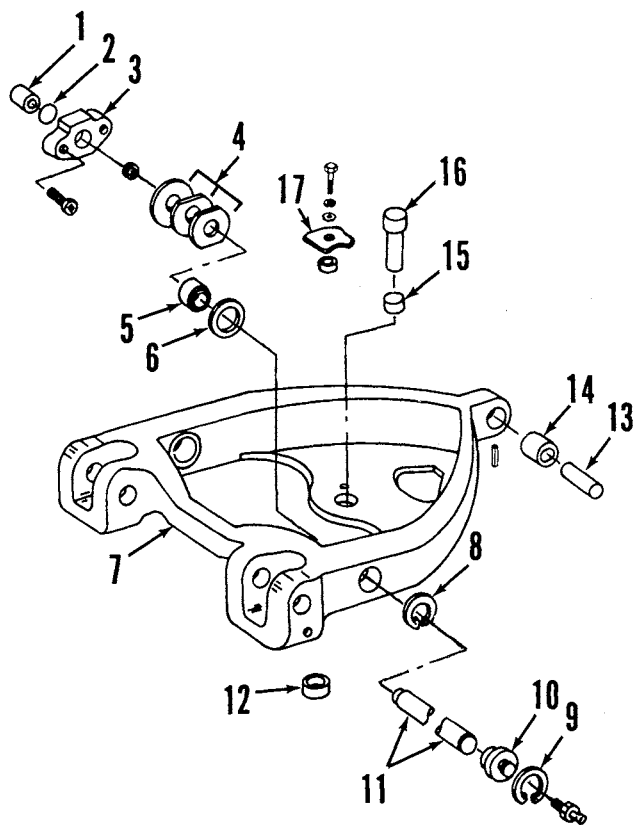

Fig. 261—Exploded view of draft link and drawbar support used on Models 4050, 4250 and 4450.
The load control shaft (11) may be removed without removing load control arm. First drain transmission fluid, then remove snap rings (9—Fig. 261) and retainers (10). Support drawbar front support (7) with a jack, then withdraw load control shaft (11) from housing. Remove bushing supports (3) with bushings. Remove snap rings (8) and drive bushings (5) from drawbar support if necessary.